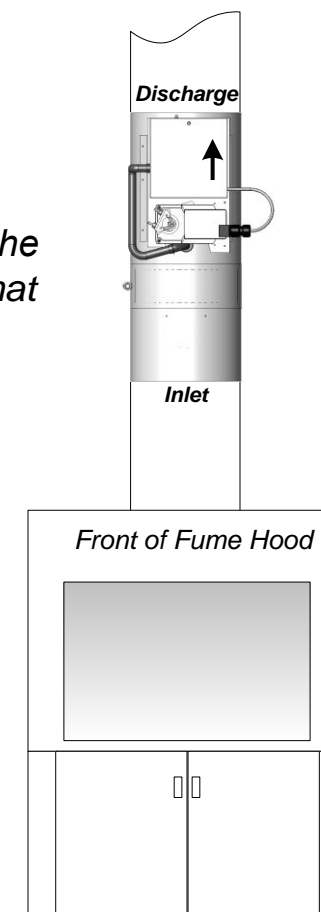

Figure 2
3. Locate the duct section which the valve is servicing and select a suitable mounting location for the valve. The recommended mounting position is vertical as shown in Figure 1. If vertical mounting is not possible and the valve is installed in a horizontal duct run, the valve shall be positioned with the controller on the top as shown in Figure 2.